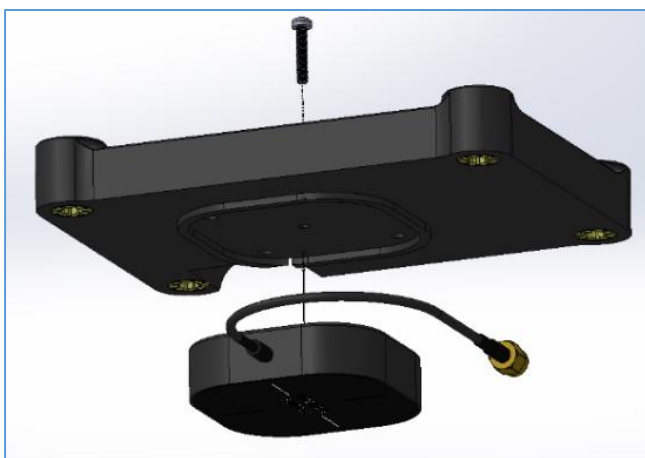

FIGURE 14.2: PLACEMENT OF TPT COIL
1. Place the TPT coil on top of the surface and secure it by applying the screw at the bottom of the coil as shown in Figure 14.2 below.